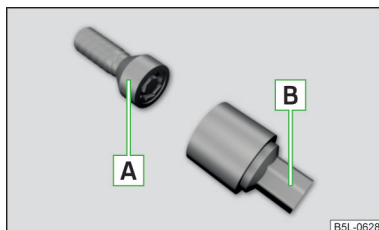

Fig. 183
The anti-theft wheel bolts protect wheels from being stolen. This can only be **[B]** with the attachment» Fig. 183 loosened / tightened.
- Insert the attachment **[B]** » Fig. 183 as far as it will go on the anti-theft wheel bolt **[A]**.
- Insert the wheel wrench onto the wheel bolt to the stop. Use the associated attachment for the anti-theft wheel bolts » Fig. 183 on page 153.